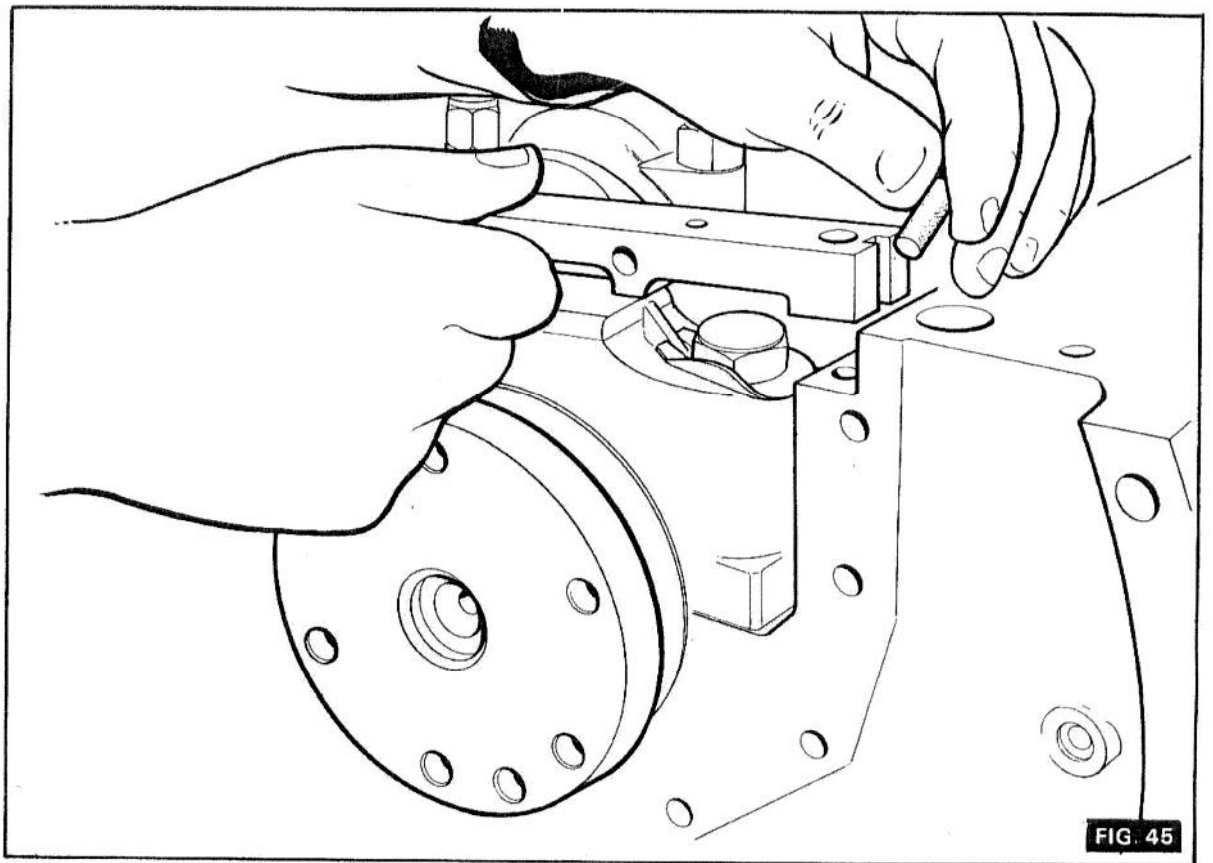

FIG. 45
12. Refit the rear main bearing bridge piece to the cylinder block together with new joints and sealing rubbers (see Fig. 45).